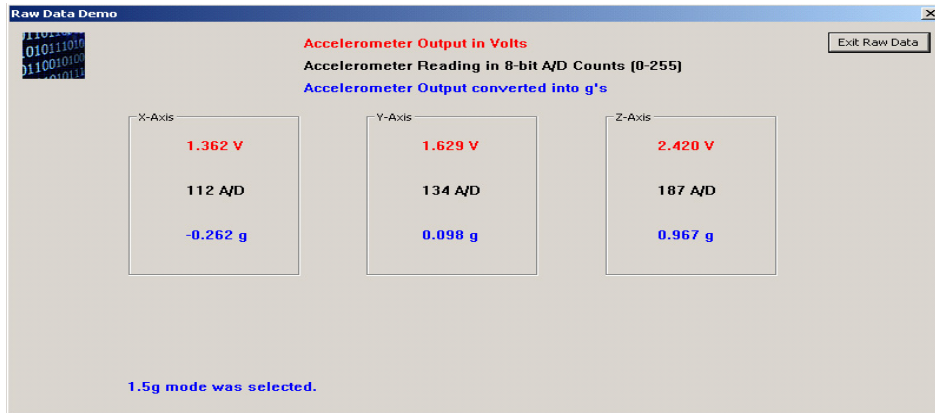

Figure 4-2. Raw Data Demonstration
1. Check for the ping packet. The Accelerometer application sends a ping packet to the `PC_Radio` every two (2) seconds as indicated by LED2. The Accelerometer Board quickly blinks LED2 indicating that the ping packet is sent. The `PC_Radio` receives the ping and toggles LED2 upon reception. Once connectivity between the `PC_Radio` and the Accelerometer Board is verified, go to Step 2.
4. Select the Raw Data applet from the Triax application. The Raw Data applet shows the X, Y, and Z axes A/D values as reported by the Accelerometer Board. When the board is laying flat, the raw values should read approximately 0g for both the X and Y axes. However, the Z axis should read approximately 1g. As shown in Figure 4-2, when the Accelerometer Board is moved, the values of the X, Y, and Z axes are updated on the Raw Data applet.